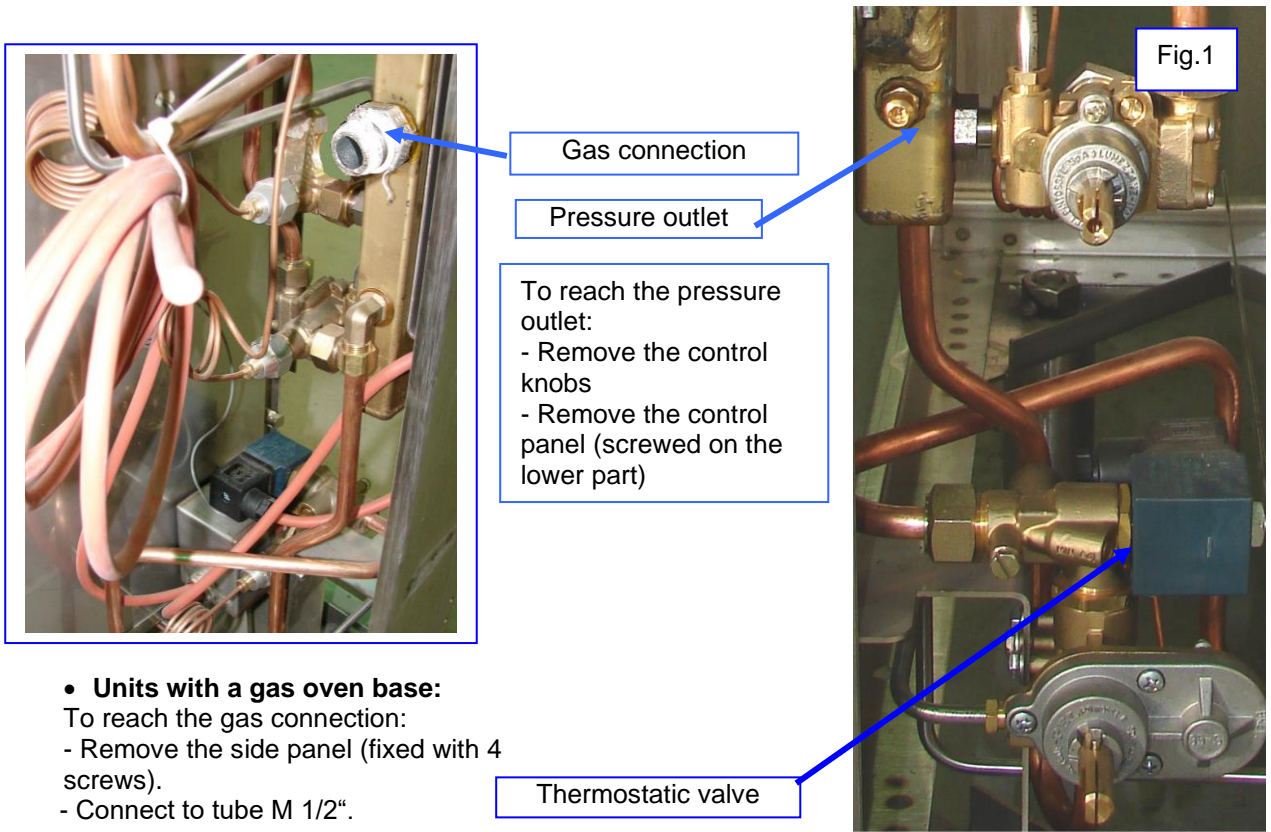

Fig.1
<p>Unscrew the two fixing screws located at the right and left hand sides (see Fig.1 & 2) to release the fixing fasteners (see Fig. 3).</p>	<p>Fig.1</p>
<p>Install the flue above the space reserved for it and slide the fixing fasteners underneath the top of the appliance. Screw the two screws to fix the flue (see Fig. 1 & 2).</p>	<p>Fig.3</p>
- Connect the pressure gauge located on the ramp (see fig. 1 & 2, page 5),